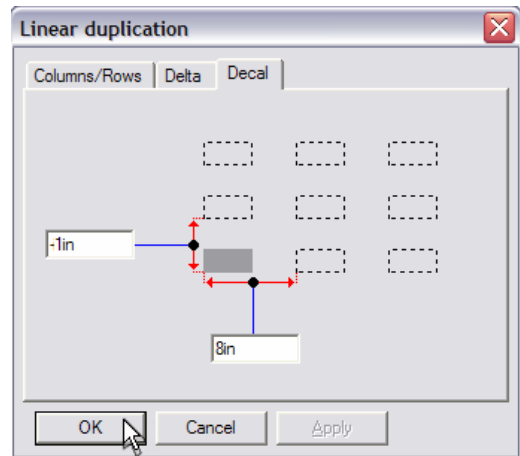

Figure 7-15 Linear Duplication F2 Dialog Box, Tab 3
- A dialog box will pop up. It has three tabs. The first tab, Columns/Rows, uses the 1 column and 6 rows we already entered in Figure 7-15.